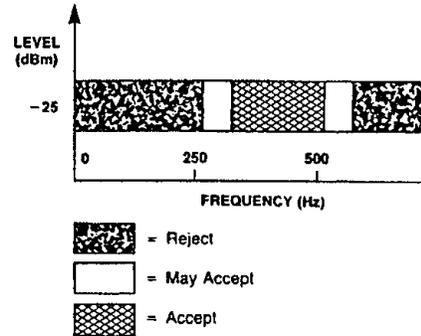

Figure 6. Call Progress Response
A Call Progress (CP) Mode can be selected allowing the detection of various tones which identify the progress of a telephone call on the network. The Call Progress tone input and DTMF input are common, however, call progress tones can only be detected when the CP Mode has been selected. DTMF signals cannot be detected if the CP Mode has been selected (see Table 5). Figure 6 indicates the useful detect bandwidth of the Call Progress filter. Frequencies presented to the input (IN+ and IN-) which are within the 'accept' bandwidth limits of the filter are hard-limited by a high-gain comparator with the $\overline{\text{IRQ/CP}}$ pin serving as the output. The square wave output obtained from the schmitt trigger can be analyzed by a microprocessor or counter arrangement to determine the nature of the Call Progress tone being detected. Frequencies which are in the 'reject' area will not be detected, and consequently there will be no activity on $\overline{\text{IRQ/CP}}$ as a result of these frequencies.